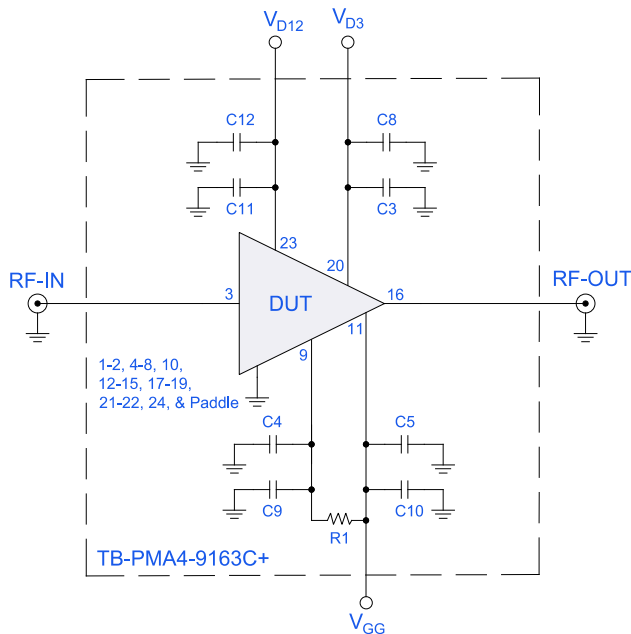

Figure 2. PMA4-9163+ Evaluation and Application Circuit
1. Tested on Mini-Circuits Evaluation Test Board TB-PMA4-9163C+. See Figure 2. Board loss de-embedded to the device.